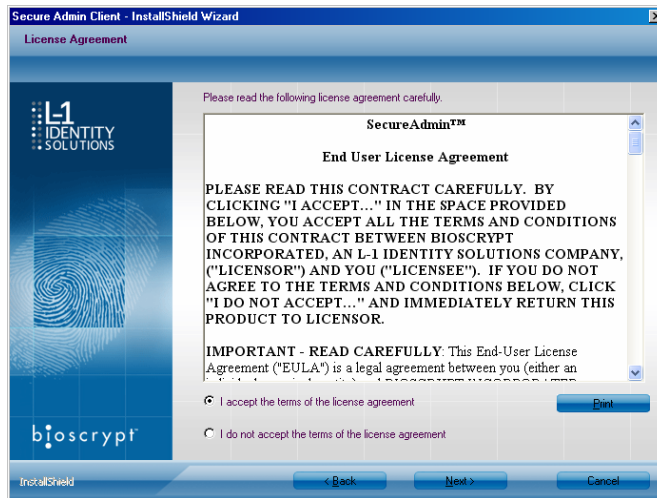

Figure 3-11: SecureAdmin Client License Agreement
3. Click the **Next** button to continue. The License Agreement screen is displayed (see Figure 3-11).